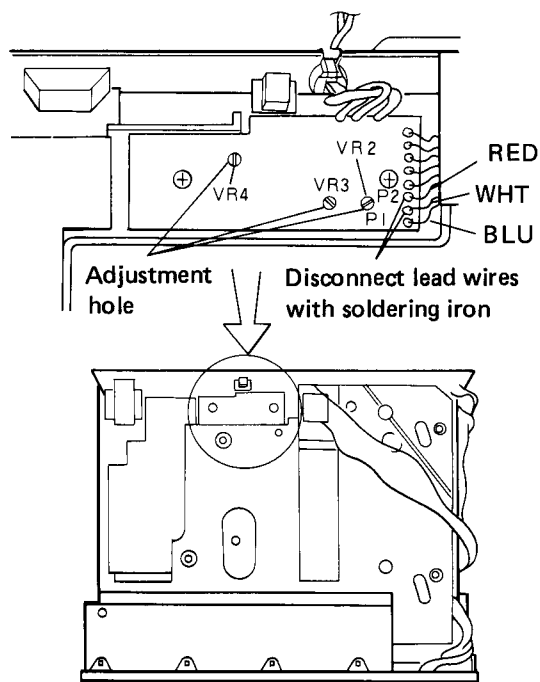

Fig. 9.4 Band Sensor Offset Adjustment
1. Remove the bonnet and P1 and P2 lead wires indicated in Fig. 9.4 (using a soldering iron to disconnect the lead wires).
7. Adjust VR 2 and VR3 (see Fig. 9.4) to obtain a waveform peak-to-peak voltage of $2.6 \pm 0.2V_{p-p}$, and an average value in the sound track portion of $\pm 0.1V$.